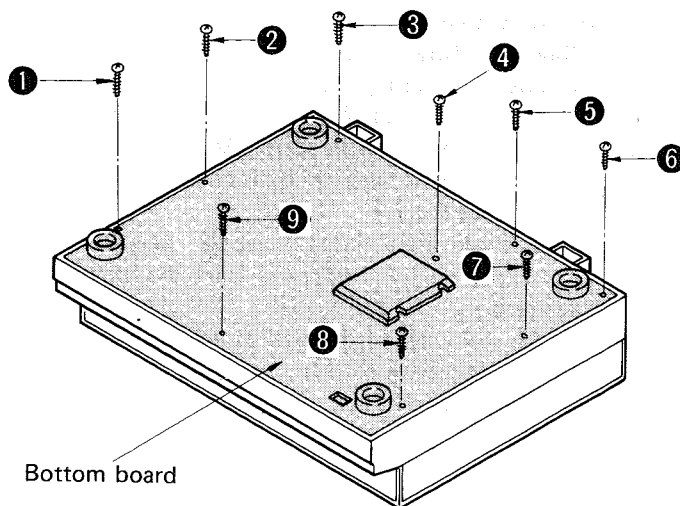

Fig. 1
4. Remove the bottom board setscrews ① ~ ⑨. Then the bottom board can be removed. (See Fig. 1)
5. Remove the setscrews ⑩ ~ ⑲ in the automatic mechanism plate and take off the stop rod, then the automatic mechanism plate can be detached.